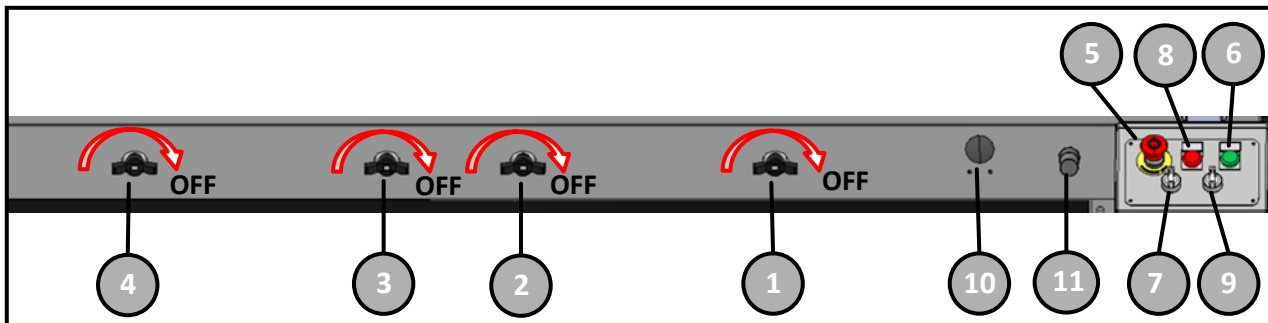

Figure 4-1
- Insert the power by pressing the machine's Power On button (6) Figure 4-1
- **Note:** If the button does not light up, check if the emergency button (5) Figure 4-1 was pressed down, if so disarm it and repeat the pressure of the Machine Power button.
- Start the vacuum pump using the selector (7) and open the suction using the selector (9) Figure 4-1.
- Open vacuum zones (1) (2) (3) (4) according to the material dimension Figure 4-1.
- In case of danger, it will be sufficient to press the emergency button (Figure 4-1) to instantly stop and cut power off to the machine.
- Press the Machine Power button (B), Figure 4-1.